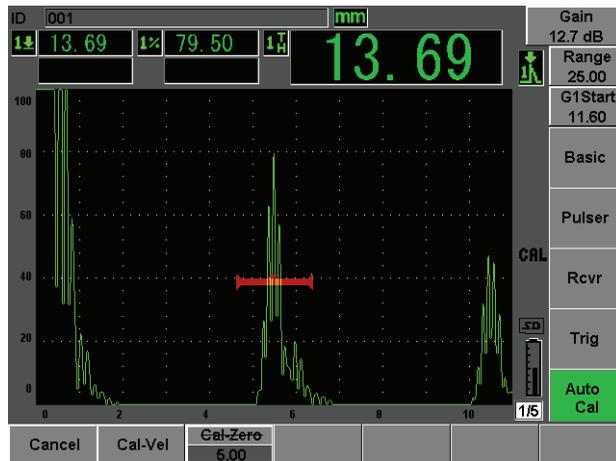

Figure 2-15 The gate 1 start
11. Bring the indication to 80 % full screen height using the (**AUTO XX%**) function (see Figure 2-15 on page 45).